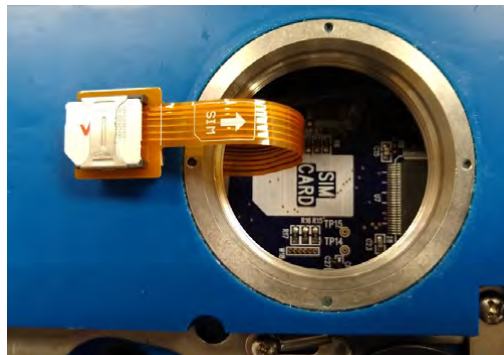

Figure 3-4 Inserting the SIM card
3. Insert the SIM card into the SIM extender (Figure 3-4).